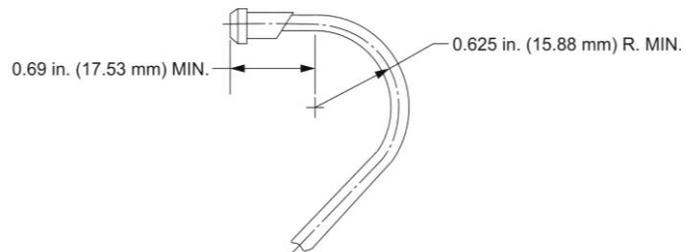

Figure 1
- A. Make sure the fuel line is not crimped or kinked, there are no cracks at solder joints, and the fuel line is in compliance with Figure 1 for the minimum acceptable dimension for a bend in the fuel line.